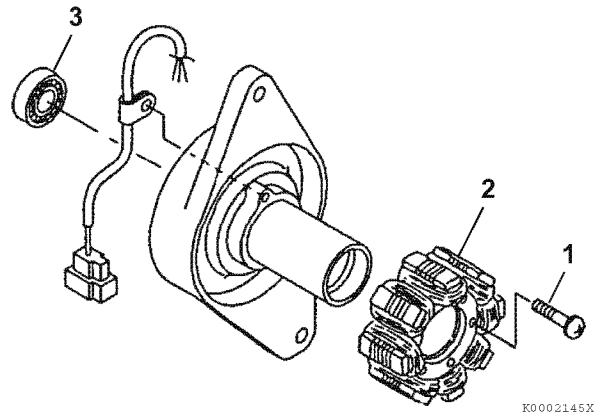

Figure 11-26
4. Remove the screws (Figure 11-26, (1)) and the stator assembly (Figure 11-26, (2)).
5. Remove the rear bearing (Figure 11-26, (3)).
1. Reinstall the rear bearing (Figure 11-26, (3)).
2. Reinstall the stator (Figure 11-26, (1)).
3. Reinstall screws (Figure 11-26, (1)).